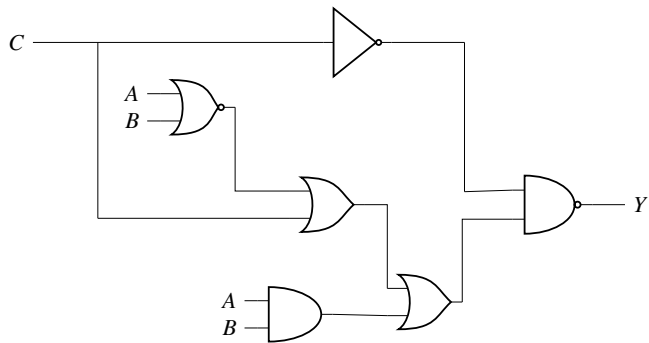

Fig. 3.38
56. In the circuit shown in Fig. 3.38, if  $C = 0$ , the expression for  $Y$  is